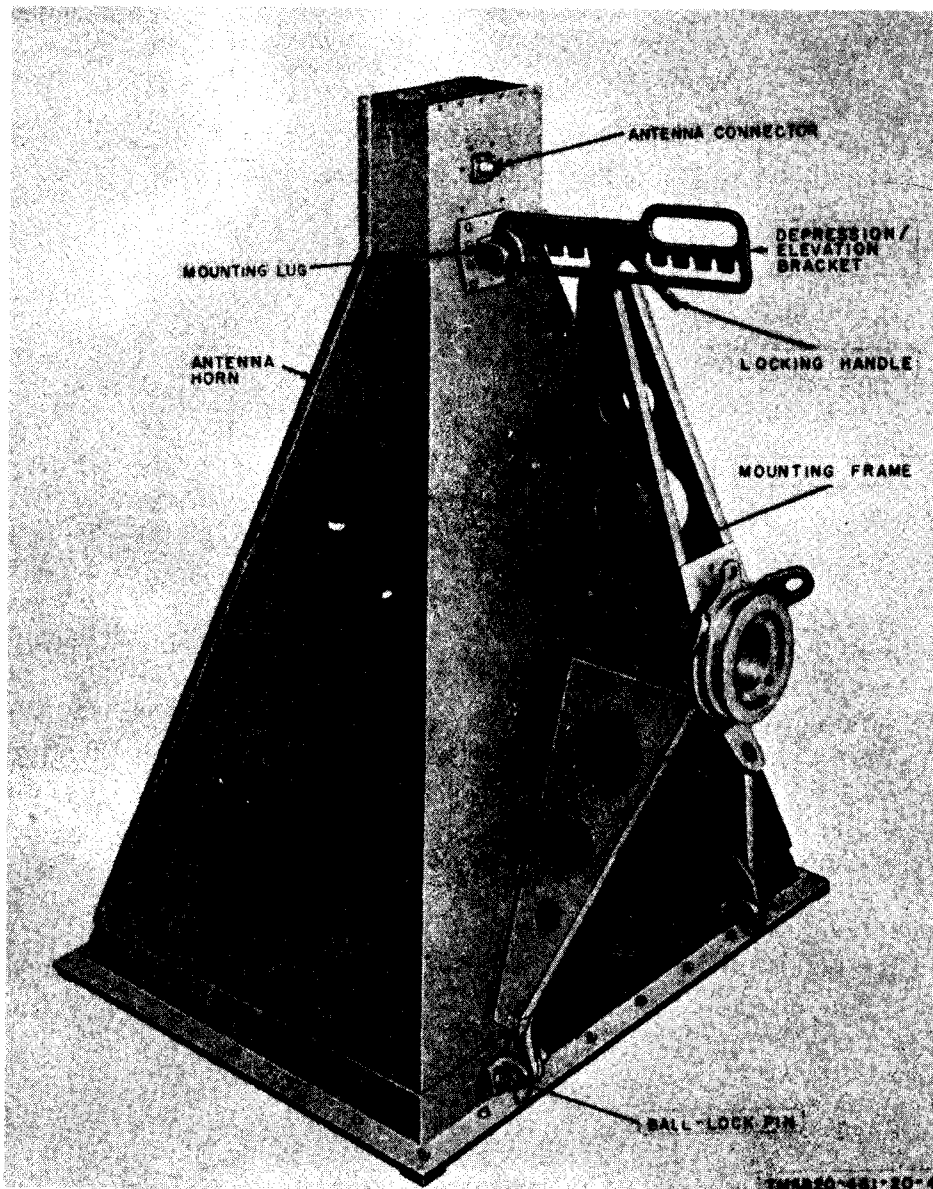

Figure 2-5. Antenna AT-903/G, location of components.
- (1) To detach the mounting frame from the antenna horn, pull the three ball lockpins from their holes (fig. 2-5).
- (2) Set the mounting frame on the antenna horn in the desired polarization. Align the holes in the legs of the mounting frame with the holes in the mounting lugs, and insert the ball lockpins.
*b. Elevation and Depression Adjustment* (fig. 2-5). Refer to the radio installation instructions, which should state the angle at which the antenna horn should be set. The depression/elevation bracket is slotted at 2° intervals; the zero (0) slot provides for the antenna to be parallel to the ground.
- (1) Loosen the locking handle.
- (2) Grasp the depression/elevation bracket; lift it to disengage the slot. Move the mounting frame to the proper slot for elevation or depression angle.
- (4) Tighten the locking handle.